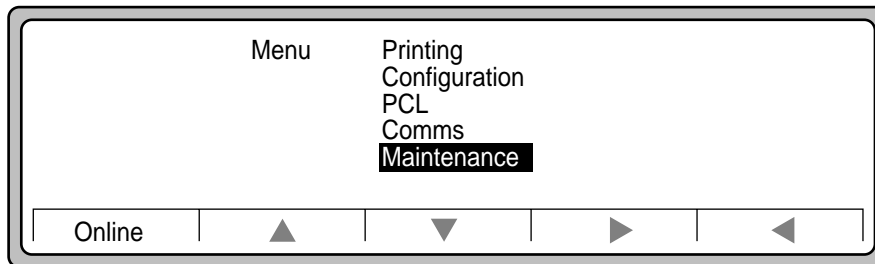

Figure 2-81 Maintenance Selected
2. Use the **down arrow** to highlight **Maintenance**, as shown in Figure 2-81.